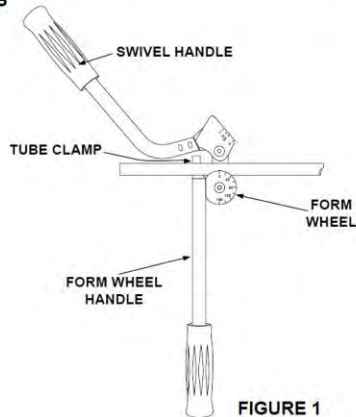

FIGURE 1
1. Raise swivel handle. (Fig. 1)